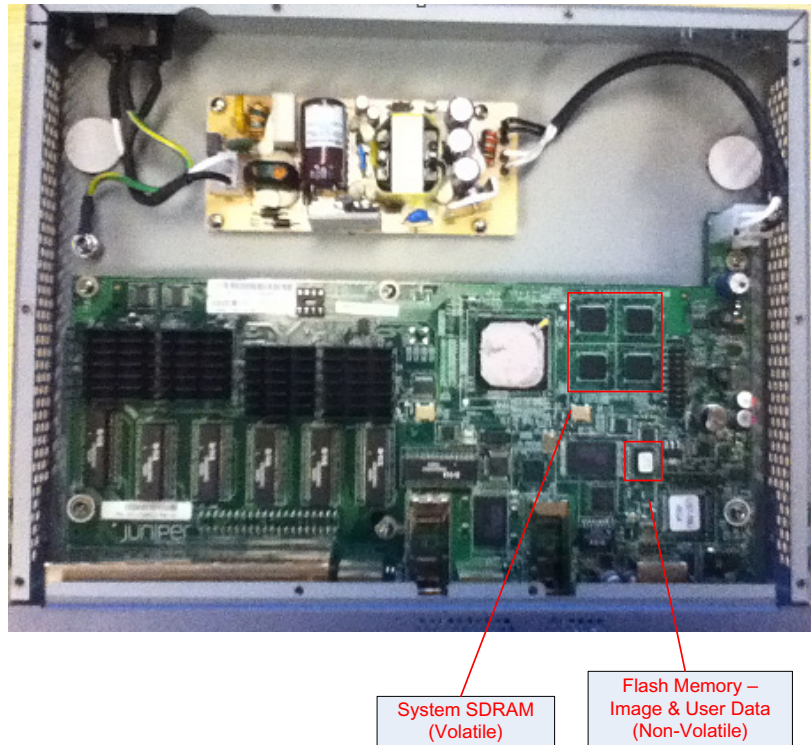

Figure 3-9: EX2200-C Locate NV Storage (Flash)
3. Locate NV storage (Figure 3-9)